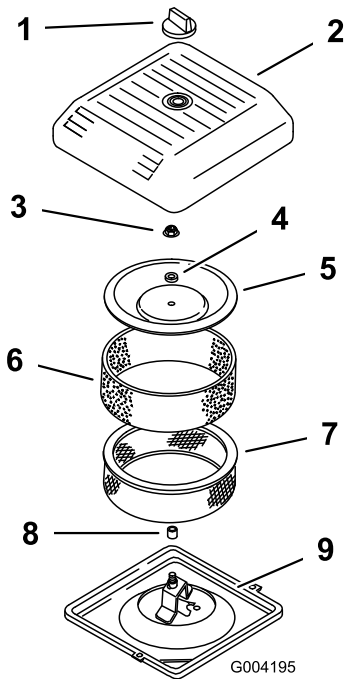

Figure 41
3. Unscrew the knob and remove the air-cleaner cover (Figure 41).
4. Carefully slide the foam pre-filter off the paper element (Figure 41).
5. Unscrew the cover nut and remove the cover, spacer, and paper filter (Figure 41).
2. Place the air cleaner assembly onto the air cleaner base (Figure 41).
3. Install the cover, spacer and secure it with the cover nut (Figure 41). Torque the nut to 11 N·m (95 in·lb).
4. Install the air cleaner cover and secure with the knob (Figure 41).